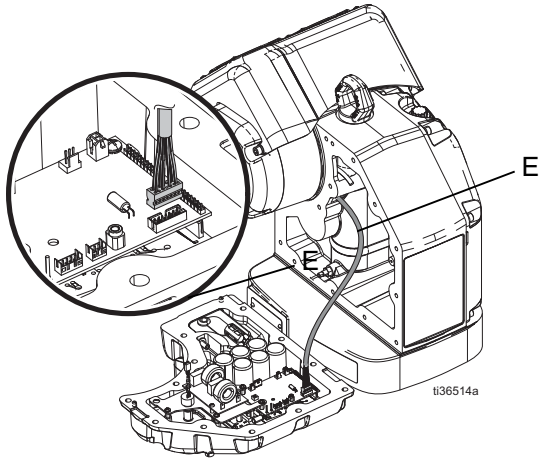

FIG. 21: Encoder Cable
- Encoder cable (E). See FIG. 21 on page 17.